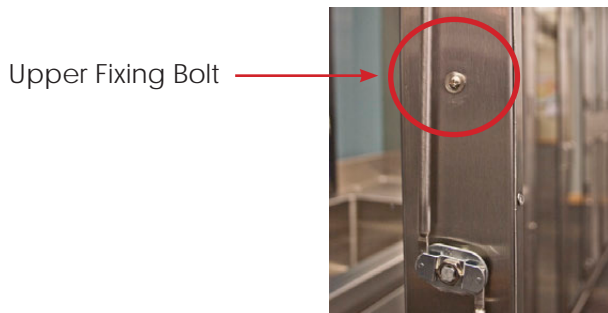

Fig. 32: Upper Fixing Bolt
Fit new Batteries by opening the door and removing the Upper Fixing Bolt. Swing the Lock down over the edge of the door. Refit the Lock when done (Figs. 32 and 33)
- 4) Fit new batteries by removing the upper fixing bolt and swinging the lock down over the edge of the door. Refit the lock when done (Figs. 32 and 33).
- 1) Remove the upper fixing bolt and swing the lock over the edge of the door to reveal the battery compartment (Figs. 32 and 33).